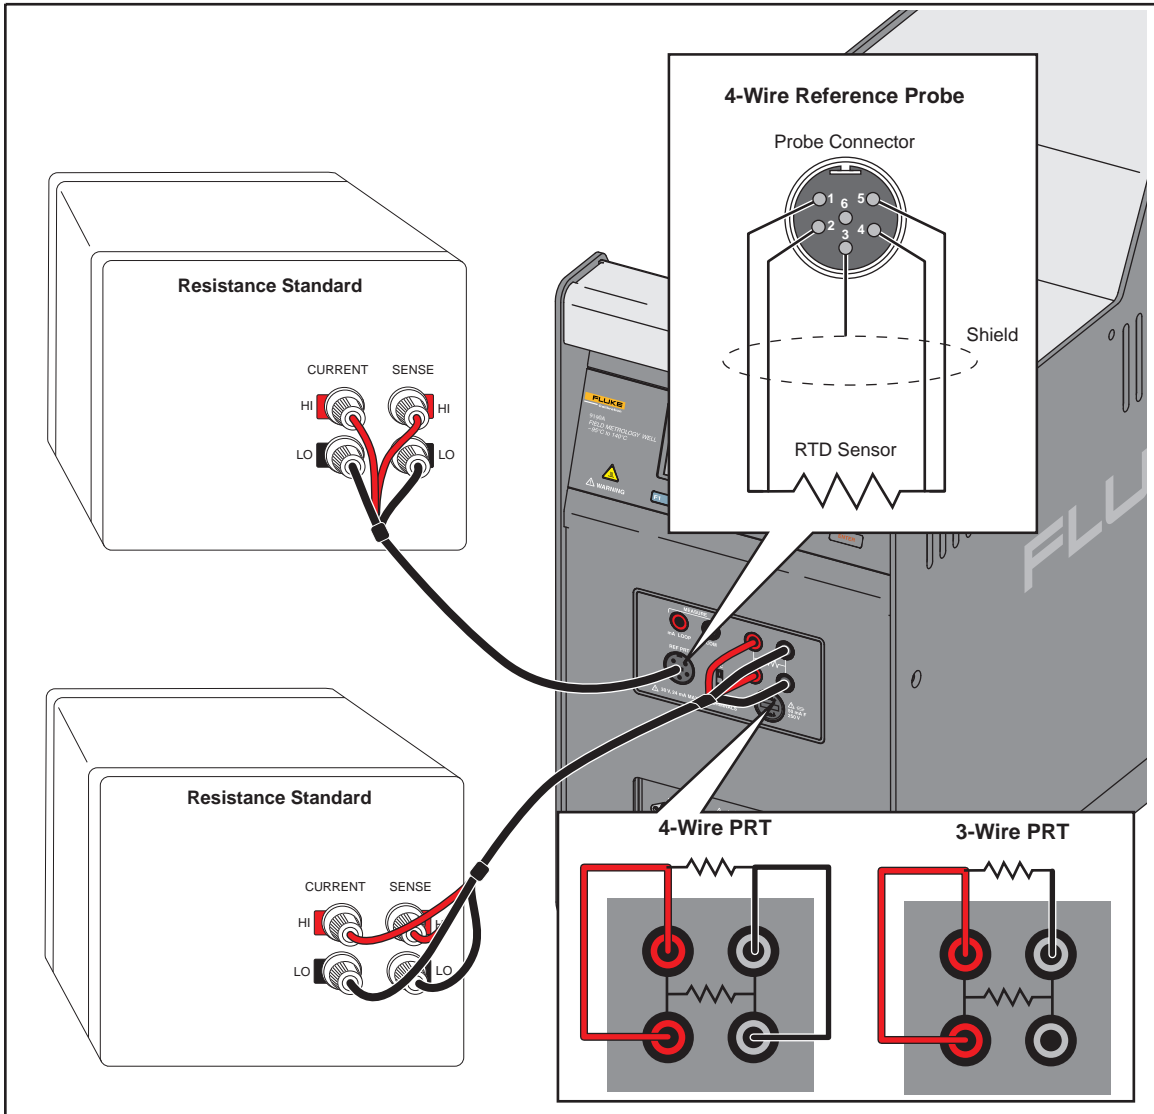

Figure 4-3. 4-Wire Setup
1. Connect the 100 Ω resistor in the 4-wire UUT configuration (see Figure 4-3).
- Connect the 100 Ω resistor in the 3-wire UUT configuration (see Figure 4-3).